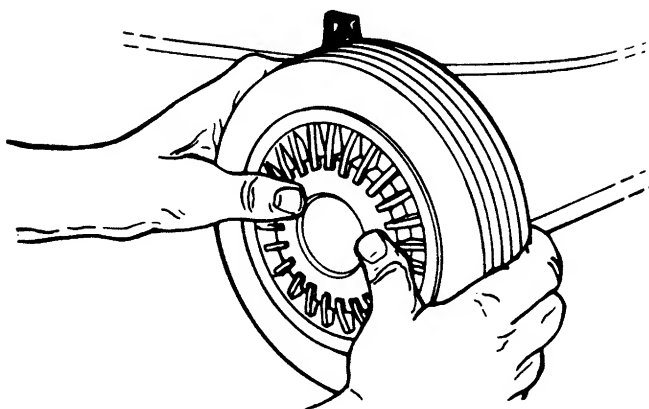

FIGURE 9.
1. Attach hub caps (optional) to wheels by placing in position against the inner hub of the wheel. For units with 2" wide tires, press firmly around the center portion of hub cap in a circular motion, similar to installing a lid on a round, plastic container. See figure 9. The hub caps are flexible and will snap over the wheel hubs.